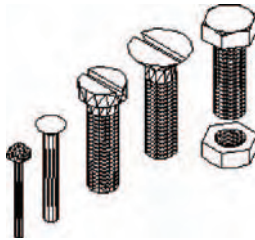

Fig. 14.5 Second example – the five fastenings
- Construct 3D models of a number of engineering fastenings. The number constructed does not matter. In this example only five have been constructed – a 10 mm round head rivet, a 20 mm countersunk head rivet, a cheese head bolt, a countersunk head bolt and a hexagonal head bolt together with its nut (Fig. 14.5). With the **Create** tool save each separately as a block, erase the original drawings and save the file to a suitable file name – in this example **Fig05.dwg**.